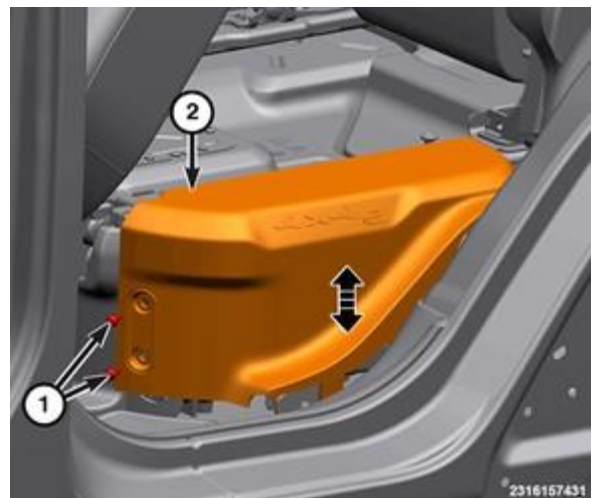

Figure 17 – HV Battery Side Trim
- 25. Remove the fasteners (1) from the side high voltage battery trim panels (2) (Figure 17).